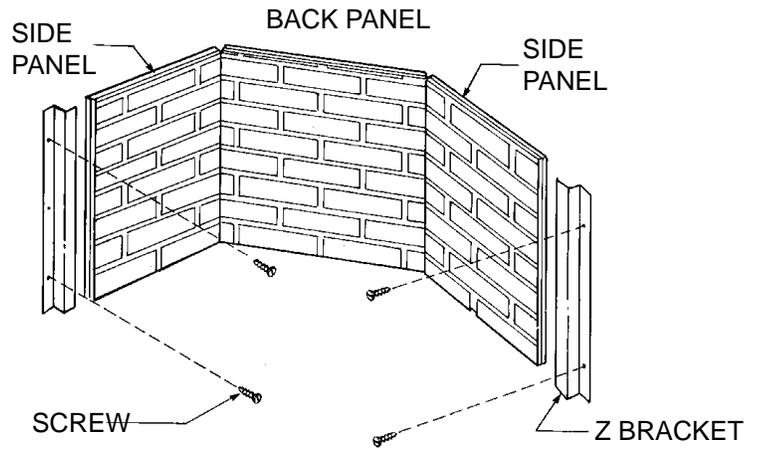

Fig. 15. Installation of simulated brick panels.
Remove anything within the fireplace. Install the back panel first and let it rest tight against the back wall. Place one side panel inside the fireplace and align the brick pattern. The "Z" bracket mounts along the front edge of the side panel and is held with (2) screws. Repeat the process for the other side panel. (See Fig. 15).